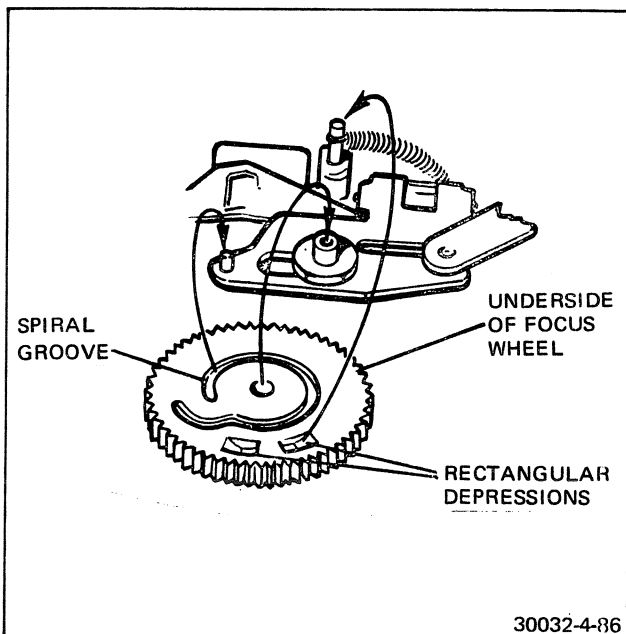

FIGURE 4-86 FOCUS WHEEL CONFIGURATION
- aj. Examine the bottom side of the focus wheel (Figure 4-86). Note that it has a spiral groove and two rectangular depressions. One is positioned close to the spiral groove. The positive stop pin must engage the other rectangular depression (the one farthest from the spiral groove). The pin on the cam follower must engage the spiral groove. Install the wheel so that the foregoing requirements are met.